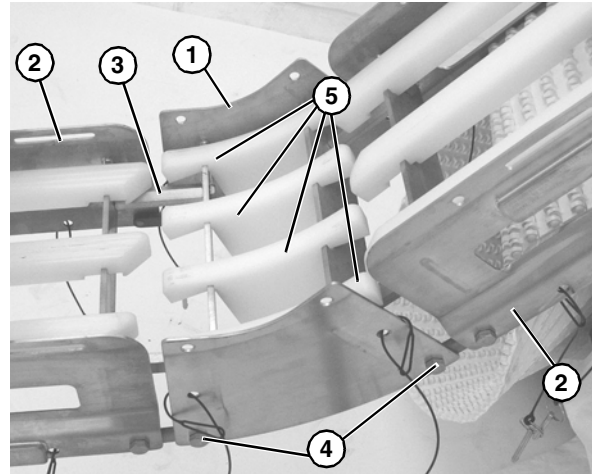

Figure 8
3. Attach lower knuckle (Figure 8, item 1) to frame (Figure 8, item 2) with hex rods (Figure 8, item 3) and bolts (Figure 8, item 4).
4. Install wear strips (Figure 8, item 5).